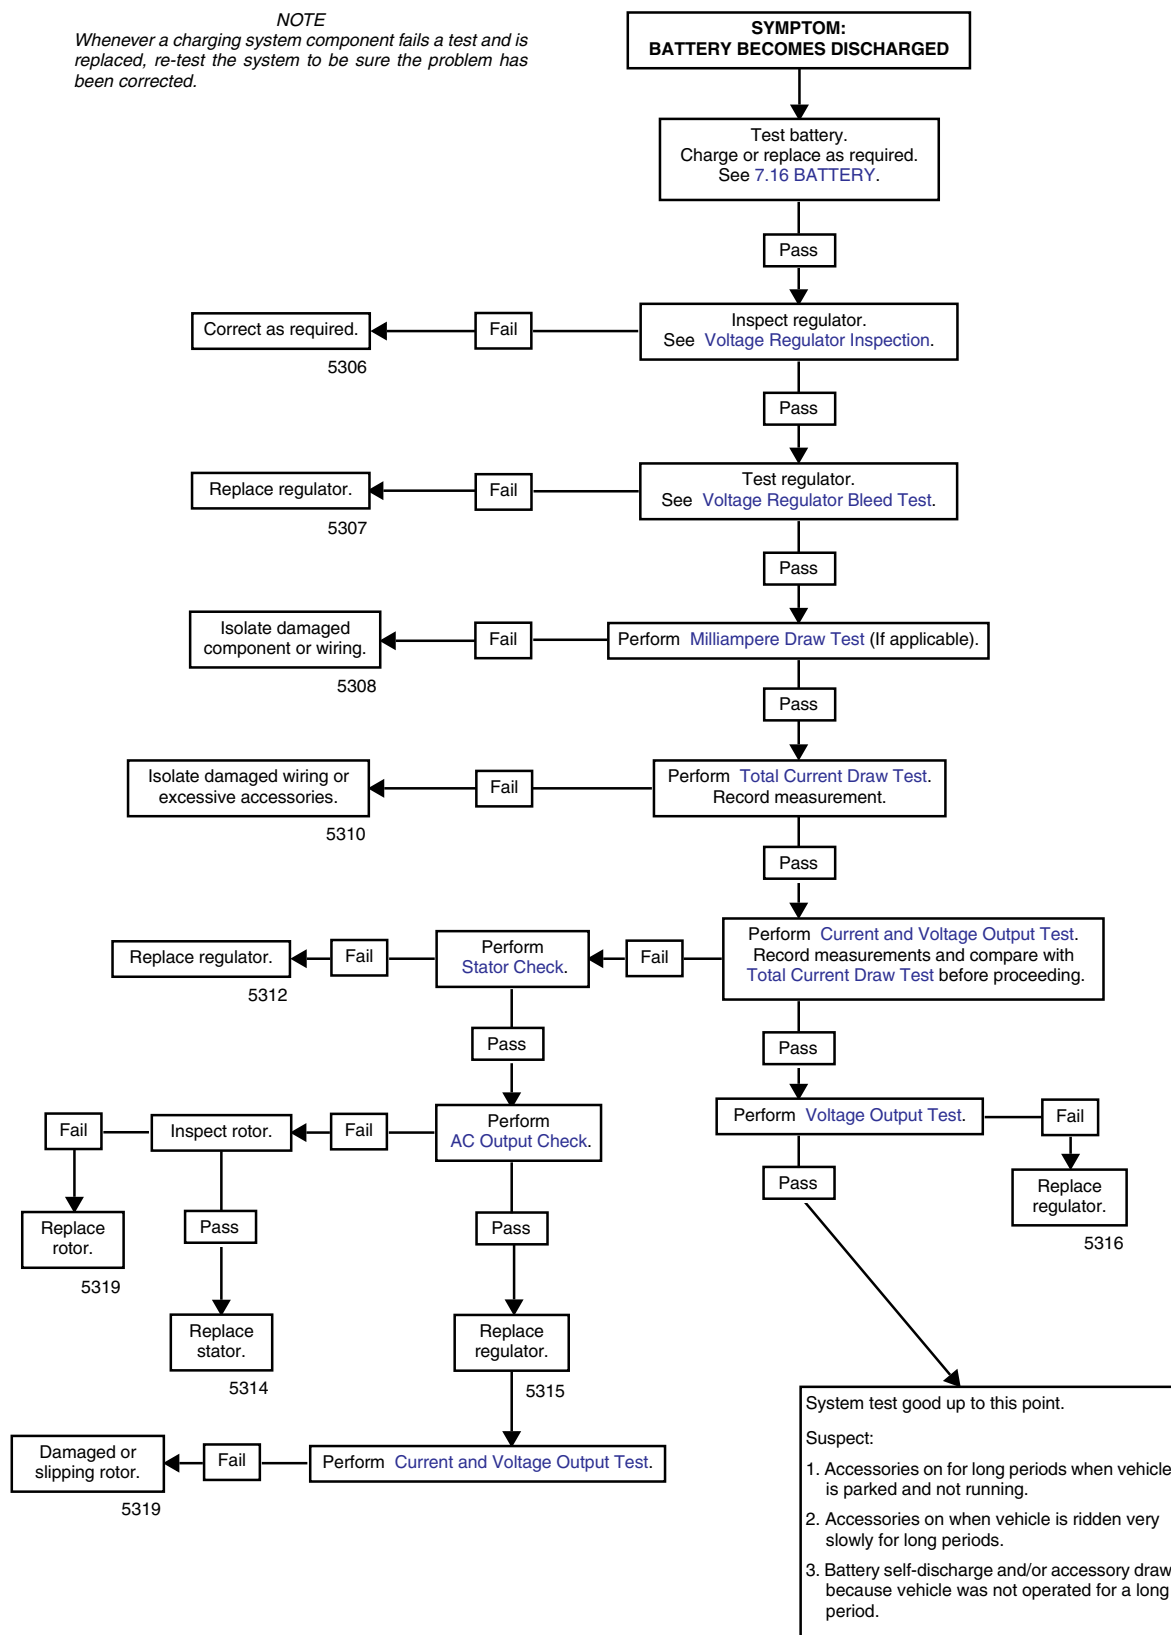

Figure 7-44. Charging System Troubleshooting
2. See Figure 7-44. If voltage to the battery is not more than 15 VDC, voltage output is within specifications. Investigate other possible problems.